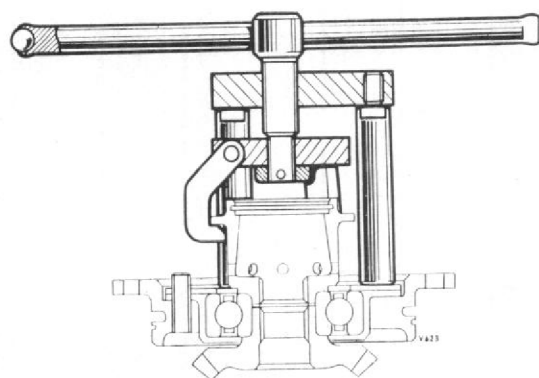

Fig. 14. Extractor T.77690 for removing the oil separating breather chamber.
2. Open up the cup locking washers (51) at both ends of the vertical drive shaft (41); using spanner T.77272 remove both ring nuts (52); remove the two cup locking washers.
4. Place the three support legs of extractor T.77690 on the top ball bearing housing; adjust the centre screw until the three claws of the extractor are positioned under the flange of the oil separating breather chamber. Turn the tommy bar anti-clockwise and draw the breather chamber off the vertical shaft, Fig. 14.